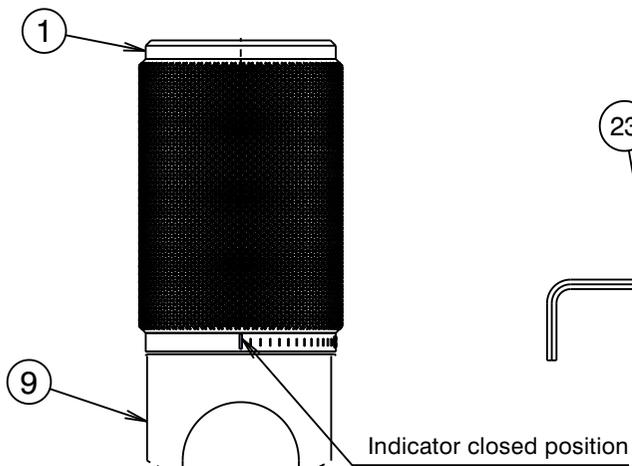
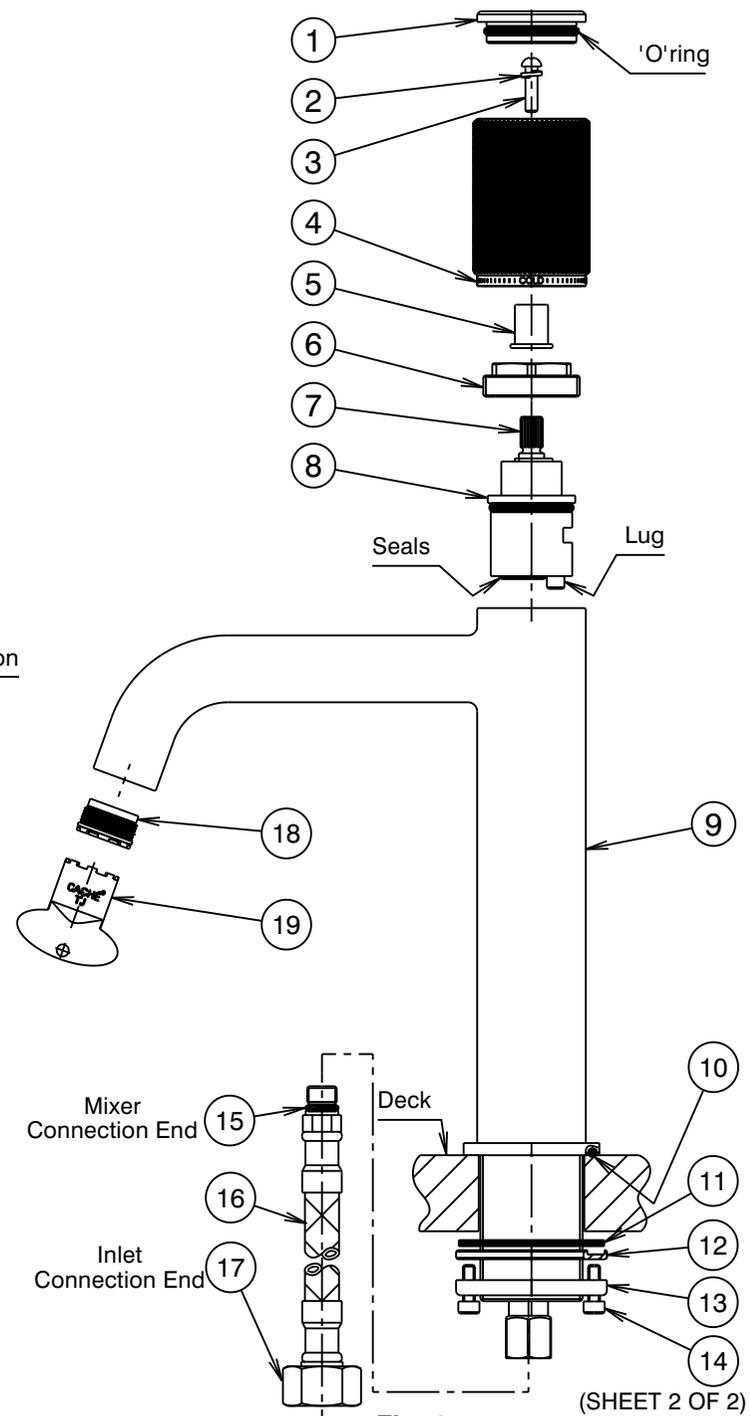

Fig. 3
Fig. 1
- 1) From fixing pack fit 'O'ring (10) into groove in base of mixer (9). Assemble screws (14) into clamp ring (13), the threaded end of each screw should be just protruding from the clamp ring. Fit flat seal (11) into groove in washer (12).
- 2) **Flexible Tail Mixer Connections:** Apply suitable lubricant to 'O' rings (15). Fit flexible tail (16) (with red indication) into hole marked with a Red Dot in underside of mixer body (9). Hand tighten the tail, ensuring the 'O' ring (15) has fully entered the sealing bore to provide a watertight joint. Fit other flexible tail (with blue indication) into remaining hole in a similar manner.
- 3) Insert the inlet connection end (17) of each flexible tail (16) through the hole in the deck. Fit mixer (9) into deck hole, fit washer (12) together with flat seal (11) over threaded tail of mixer as shown (Fig. 1). Screw clamp ring (13) onto threaded tail until it contacts washer (12) & the flat seal (11) has contacted the underside of the deck. Tighten two screws (14) using a 3mm allen key until mixer assembly is clamped firmly to the deck. **DO NOT OVERTIGHTEN.**
- 4) **Flexible Tail Inlet Connections:** Connect the flexible tails (16) to the hot and cold isolating stop taps, hand tighten the fixing nut (17) until rubber cone contacts the sealing face of the connection end, then tighten a further one turn to provide a watertight joint.
- 1) Turn metal handle (4) to the closed position.
- 2) Prise out the cap (1) using a thin flat bladed screwdriver in the gap provided. Remove screw (3), spring washer (2) and metal handle (4) and discard. (See Fig.1)
- 2) **When metal handle (4) is fitted (Fig.1):-**
- Loosen grub screw (22) using a 2.5mm allen key (23) then lift timber handle (21) from cartridge spindle. Remove screw (20) and plastic insert (5) from cartridge spindle (7). Unscrew nut (6) then lift out old cartridge (8) (Fig.1).
- 3) Ensure inside face of mixer body (9) is clean. Check that seals are in position in base of new cartridge (8). Fit new cartridge (8) into mixer body (9), taking care that the lug on base of cartridge (8) fits into the mating hole in mixer body (9). Screw on nut (6).
**Important:** Nut (6) should be tightened until solid. Rotate the cartridge spindle (7) anticlockwise to the stop position.
- 4) **To replace metal handle (4):-**
Align the closed position indicator on the metal handle to be at the front (Fig.3) then fit the handle (4) onto the spline of cartridge spindle (7). Assemble screw (3) together with spring washer (2) into handle (4) as shown (Fig.1) & tighten screw (3). Replace cap (1) with the gap for removal at the back.
#### Removing Aerator Insert (Fig.1)